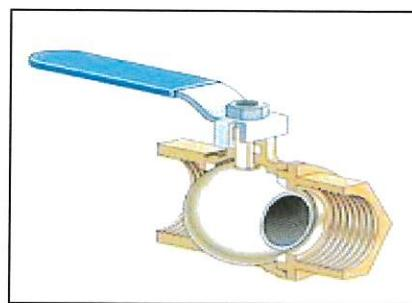

Figure A3(c) / Rajah A3(c)
- (b) Elaborate the operations of direct acting and reverse acting for Diaphragm Actuator in Figure A3(b).
- (c) A shut-off valve is a valve that safely manages the flow of hazardous fluids (liquids, gases, slurries, and fluidized solids). Shut-off valves are also known as on-off valves, cut-off valves, lockout valves, stop valves, etc. Figure A3(c) shows one of shut-off valve that controls the flow of a liquid or gas. Write the valve name, physical characteristic, valve operation, and the application of the valve.